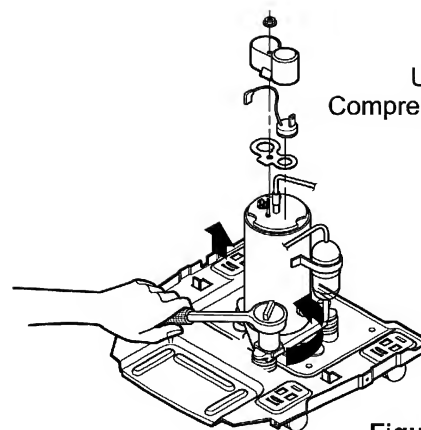

Figure 29
3. Remove the nuts and washers which fasten the compressor. (See Figure 29)
4. Remove the compressor. (See Figure 29)